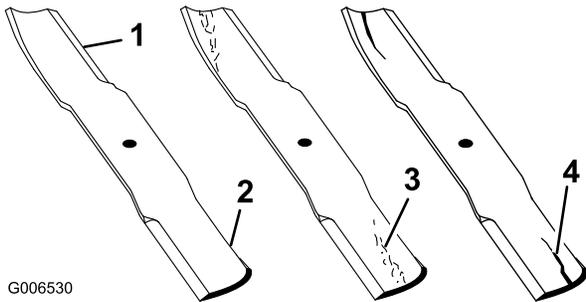

Figure 53
1. Inspect the cutting edges (Figure 53). If the edges are not sharp or have nicks, remove and sharpen the blades. Refer to Sharpening the Blades.
2. Inspect the blades, especially the curved area (Figure 53). If you notice any cracks, wear, or a slot forming in this area (item 3. in Figure 53), immediately install a new blade.